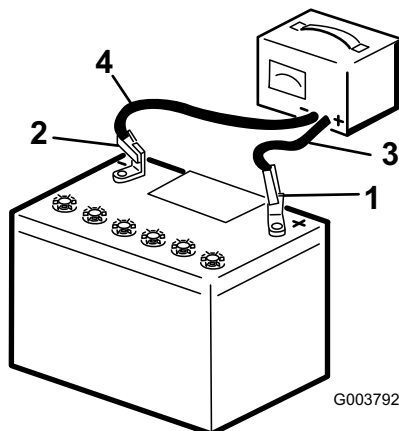

Figure 29
- Charge the battery for 10 to 15 minutes at 25 to 30 amps or 30 minutes at 4 to 6 amps (Figure 29). Do not overcharge the battery.
disconnect the charger leads from the battery posts (Figure 29).